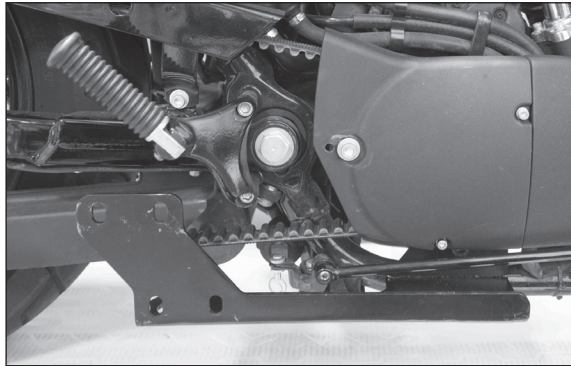

Fig. 4
1. Install the new MagnaFlow exhaust mounting bracket using the factory hardware. (Figure 4)